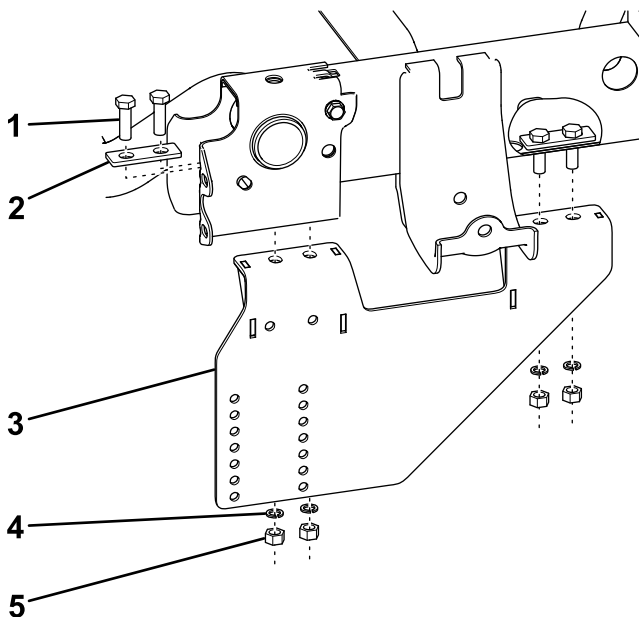

Figure 3
4. Loosely attach the sideplates to the frame using 4 bolts (5/8 inch), a spacer, 4 split lockwashers, and 4 nuts (5/8 inch) as shown in Figure 3.